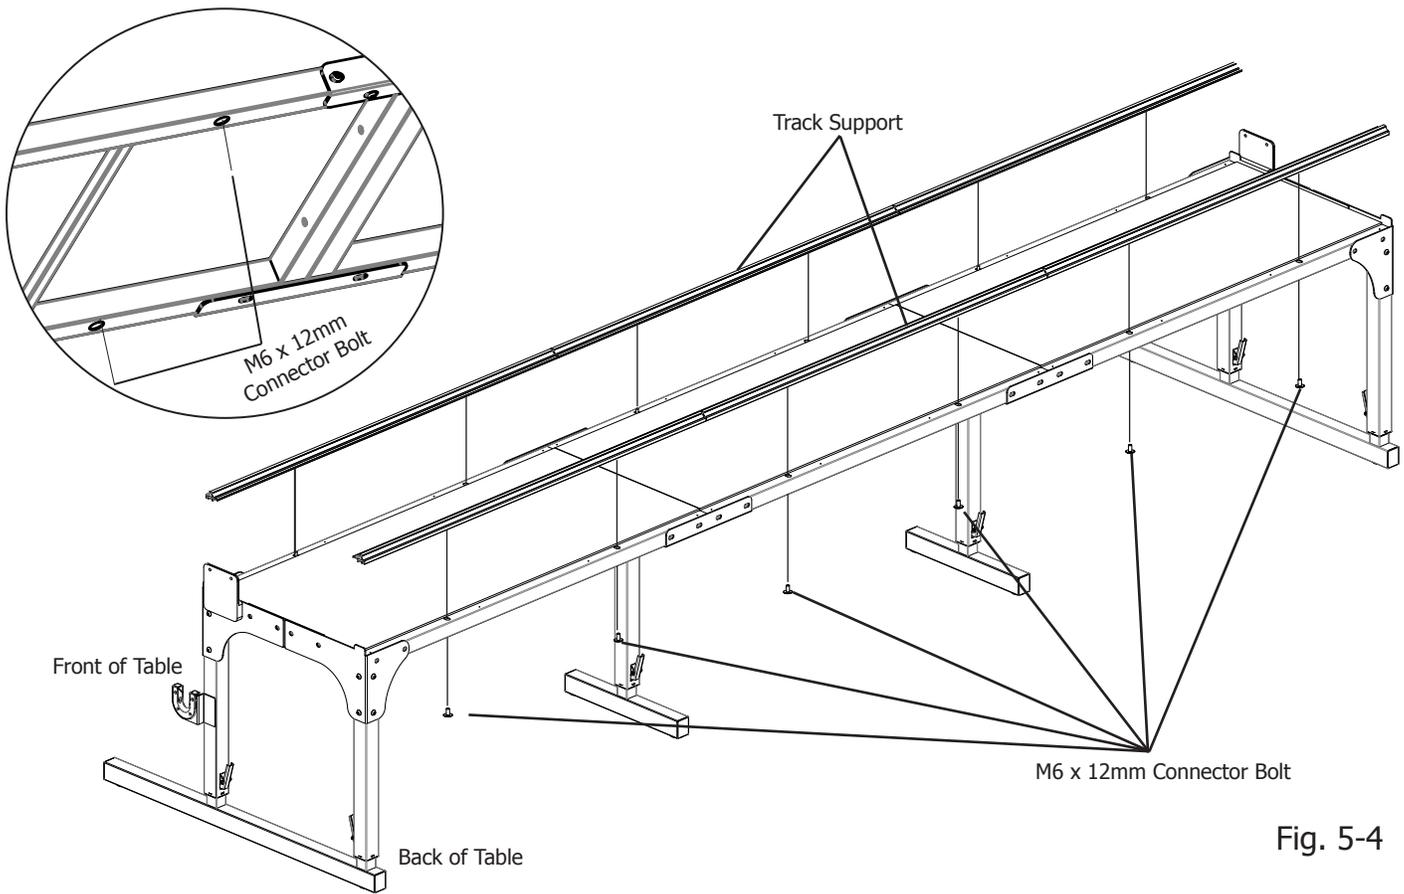

Fig. 5-4
**5-8: Attach Tracks.** Secure one assembled track to the back of the quilting frame. Line up the track support by holding it tightly against the plastic tabletop as you secure it to the frame, using six (6) M6 x 12mm connector screws, as shown in Fig. 5-4. **Do not tighten screws at**